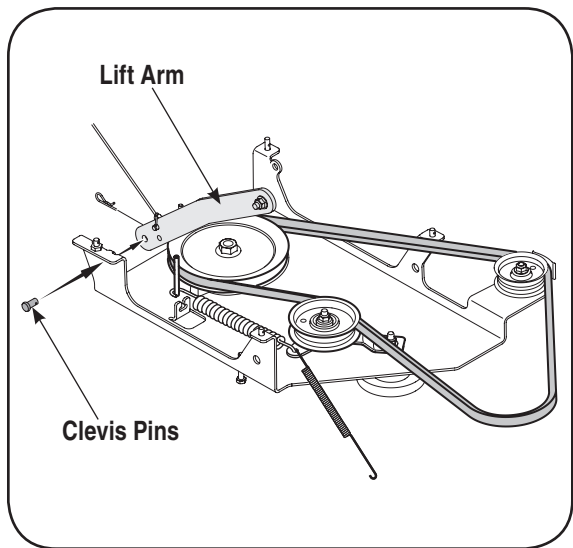

Figure 14
3. Align the holes in the rear of the lift arms with the holes in the rear of the undercarriage and insert the clevis pins removed in step 1. Fasten with the hairpin clips. See Figure 14.